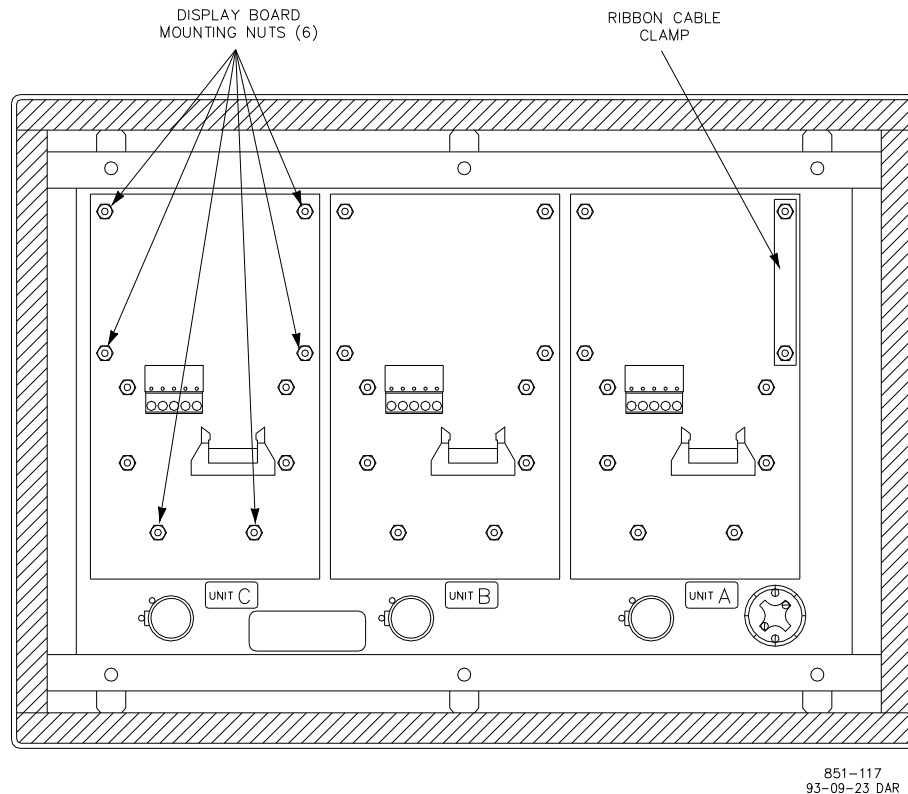

Figure 5-4. Display Boards
12. Remove the six nuts holding the display board to the ProTech system chassis front door. Note the nuts' locations in Figure 5-4 so that you don't loosen the 4 nuts that attach the LCD (display) to the circuit board.
1. Insert and position the new display board in place (Figure 5-4).